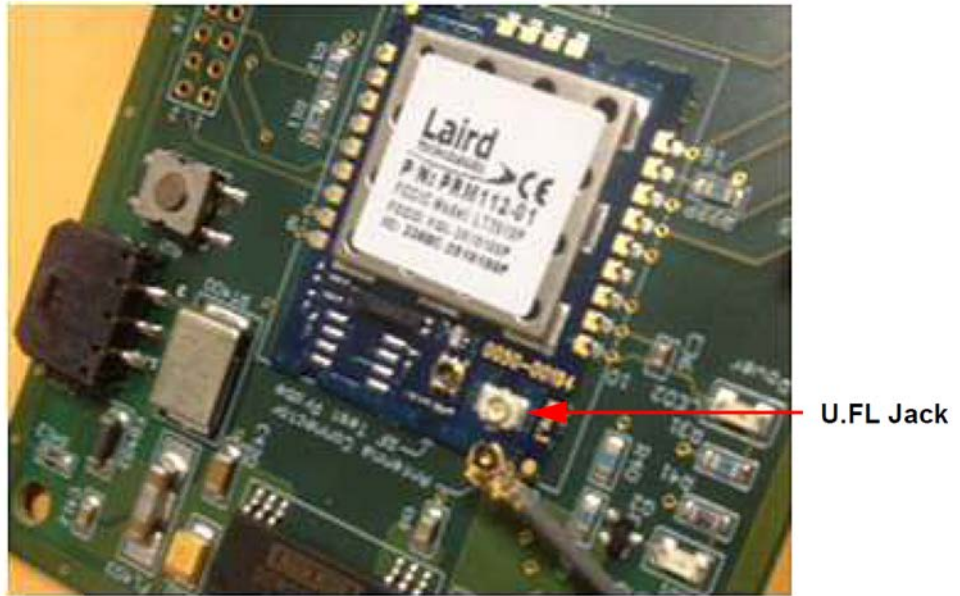

Figure 14 Antenna Connector
- 9 Connect the antenna cable to the U.FL (Color: silver) on the wireless base board (Figure 14: Antenna Connector). Carefully center the connector on the jack and press the connector onto the jack until it snaps into place. Rotate the antenna cable to ensure the connector is firmly seated in the jack.
- 12 Connect the RS-232 cable end labeled J300-1 to P300 on the wireless board using its two slotted screws (Figure 14: Antenna Connector).